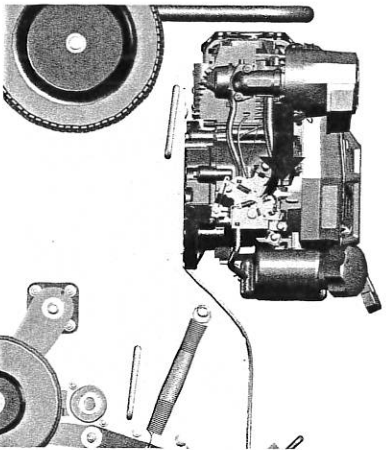

Figure 1
1. When the engine is cold pull the throttle/choke all the way back to set choke, as shown in figure 1.